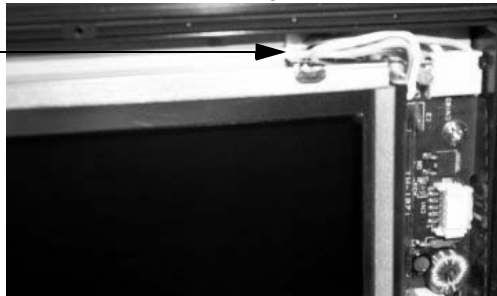

Figure 5 Securing the Backlight Cable
4. Gently tuck the wires of the backlight cables into the holes shown in *Figure 5*.